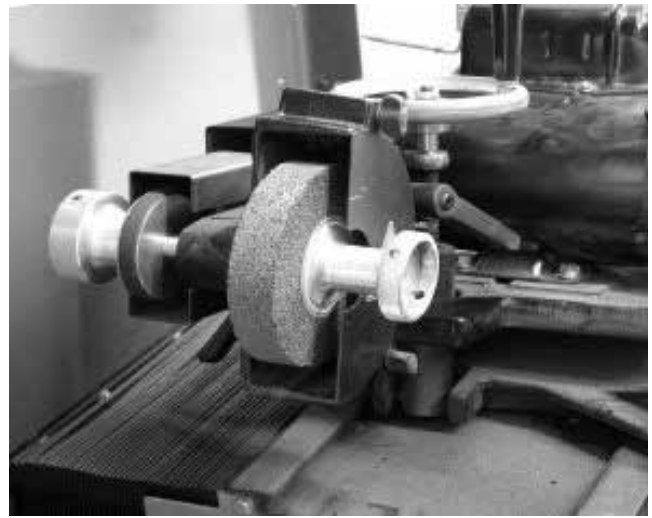

FIG. 64
1. This grinder is equipped with two grinding wheels and two grinding wheel guards. Prior to spin grinding install or verify installation of the 1" (25 MM) wide grinding wheel and the spin wheel guard which has no fingers attached. See FIG. 64.